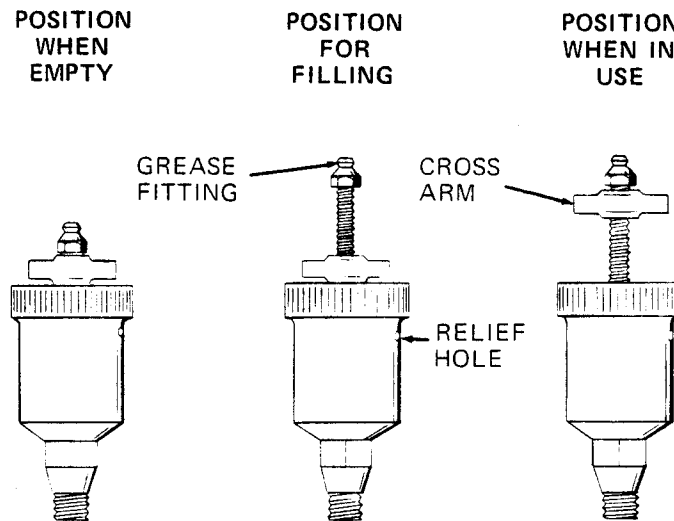

Figure 4. Automatic Lubricating Grease Cup
Before removing the seal assembly, turn the cross arm on the seal grease cup (23) clockwise until it rests against the cover (see figure 4). This will prevent the grease in the cup from escaping after the seal is removed.
Before starting the pump, fill the grease cup through the grease fitting with a good grade of No. 2 pressure gun grease until grease escapes from the relief hole. Turn the grease cup arm counterclockwise until it is at the top of the stem; this will release the spring to apply grease to the seal (see figure 4).